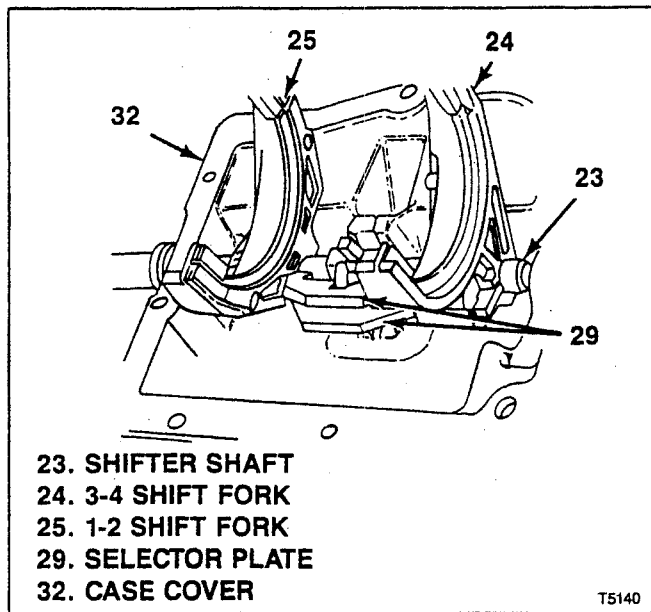

Figure 7-18. Installing T5 NWC 3rd-4th Shift Fork
g. Position 3-4 shift fork (24) (with inserts and selector plate) in case cover (32) so that selector plate (29) in 3-4 shift fork is between cover and selector plate (29) in 1-2 shift fork (25). Continue to push in shifter shaft (23) completely through 3-4 shift fork and into cover (see figure 7-18).